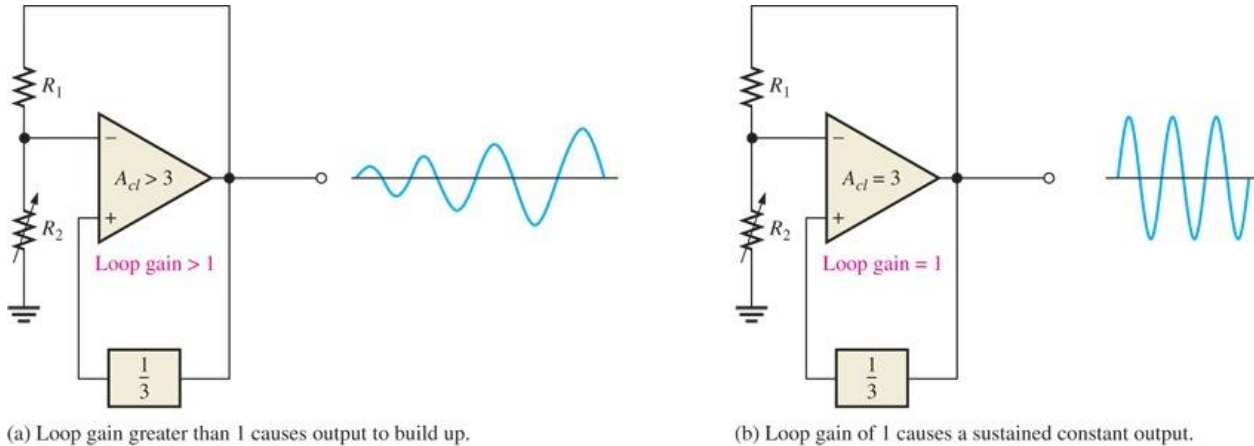

Figure 9 Conditions for start-up and sustained oscillations.
- This is illustrated in Figure 9.